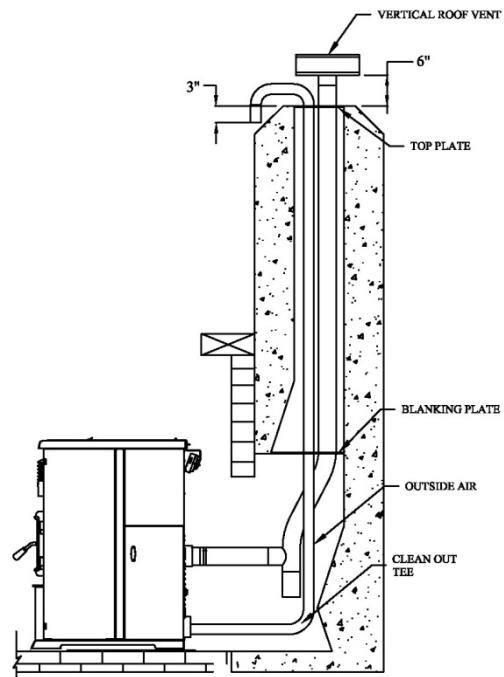

Figure 15
(Refer to figure 15)
3. Install a blanking plate and the chimney pipe, and if used the outside air pipe, as shown in Figure 15.